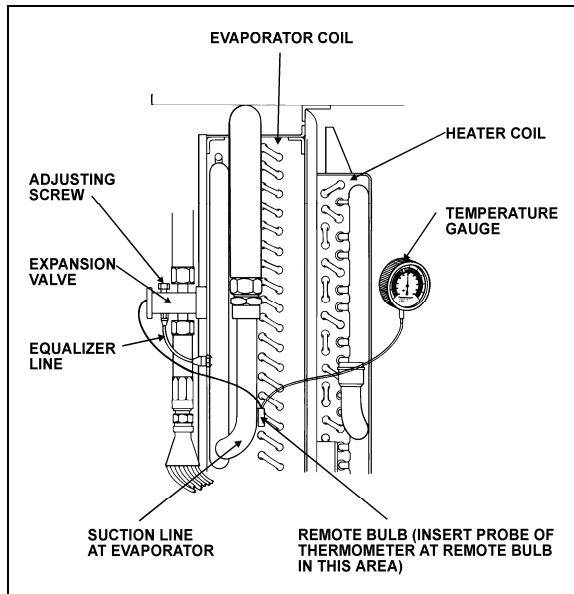

FIGURE 33: SUPERHEAT ADJUSTMENT INSTALLATION²²⁰⁴⁶
The starting method of adjusting the superheat is to unscrew completely the main evaporator expansion valve adjusting screw, then screw in 13 turns clockwise for 134A (Fig. 33). Afterwards, the following procedure should be followed:
3. Install a remote reading thermometer to the evaporator outlet line near the existing remote bulb (Fig. 33).